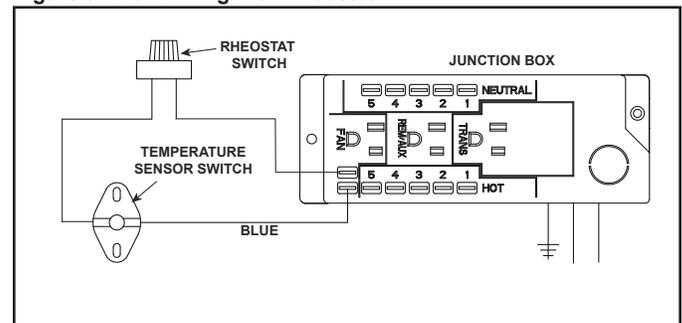

Figure 8.8 Detail of Fan Wiring with Rheostat
- Connect temperature sensor switch wire and rheostat switch wires to junction box as shown in Figure 8.8.